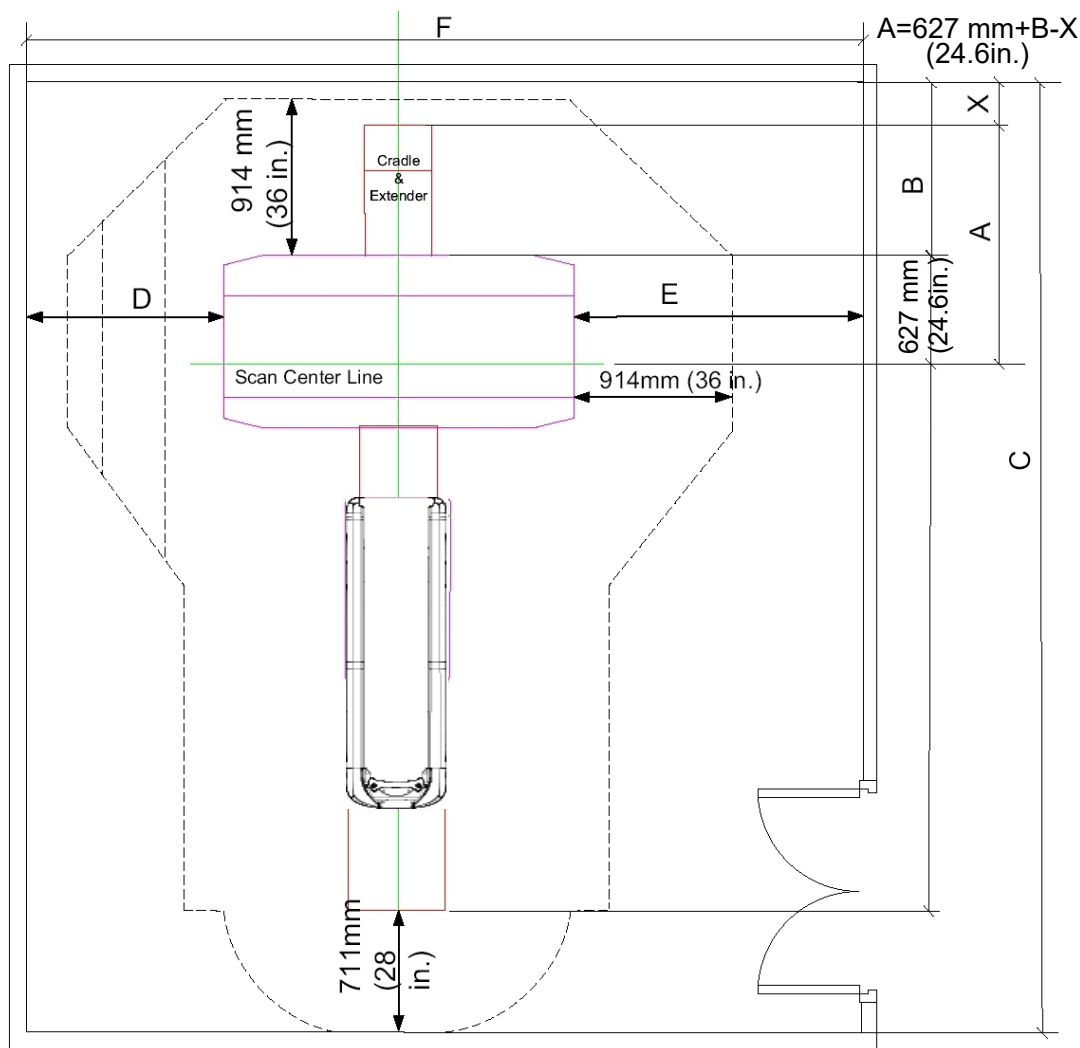

Figure 7-3 Short Footprint Calculation diagram
- 1.) Refer to Figure 7-3, use floor template with ruler to prearrange the layout and calculate the cradle scannable limitation (A).
- 3.) Record the distance from cradle limitation to wall (X) and cradle scannable limitation (A) for installation.